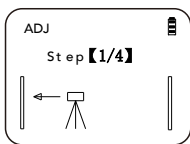
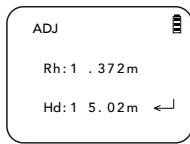

fig. 20
fig. 21
- When you see fig. 20., measure Staff A. After the data showed up as fig. 21, press SET to the next step